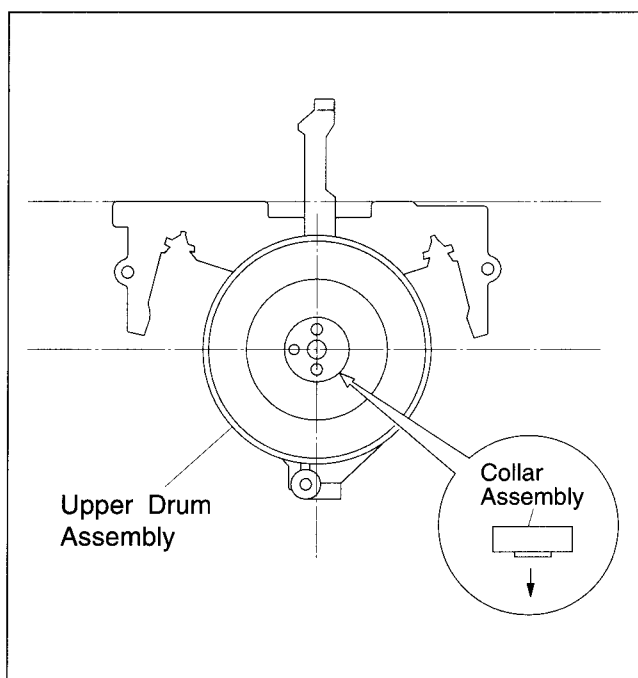

Fig.1-5-27
- (3) Note the top and bottom of the collar assembly and determine the position as indicated in Fig.1-5-27.